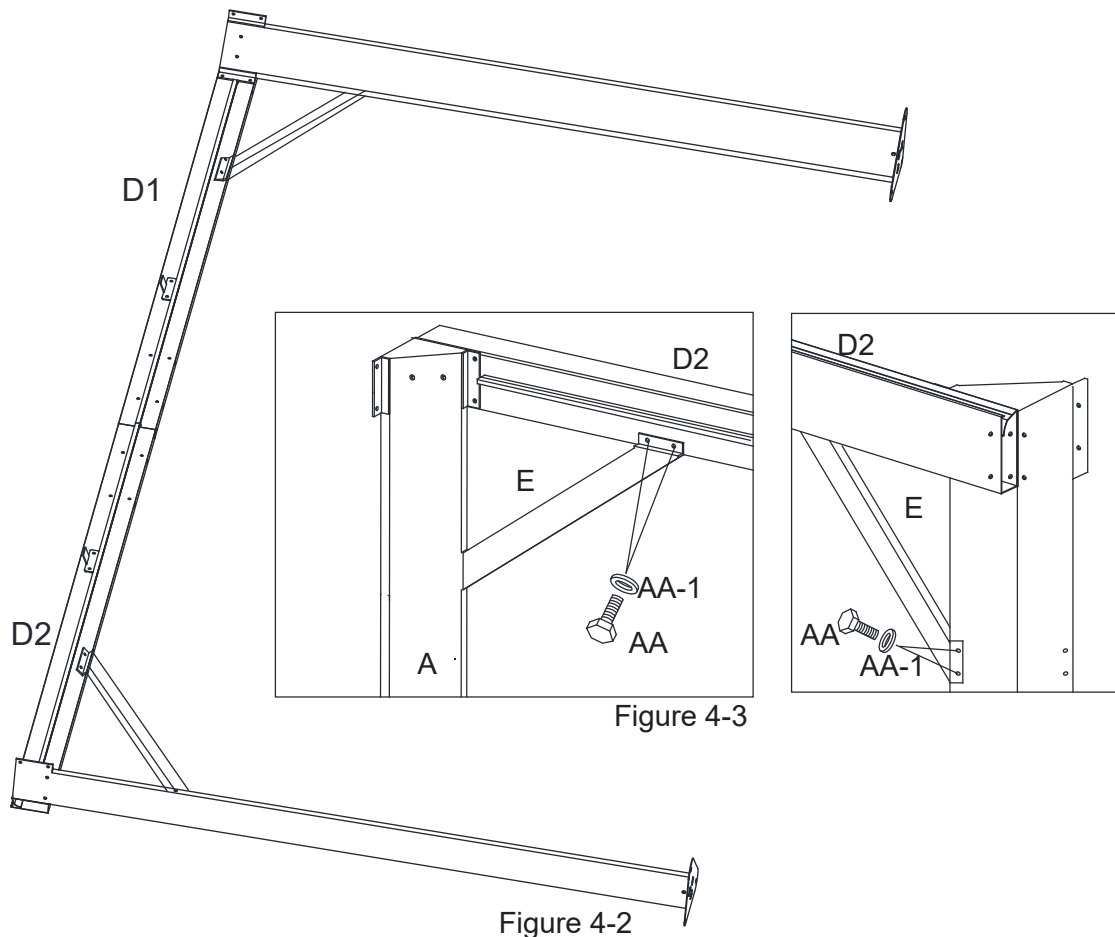

Figure 4-2
- 4.2: Repeat for opposite side Long Lintels (D1 and D2) and Corner Posts (A). See Figure 4-2.